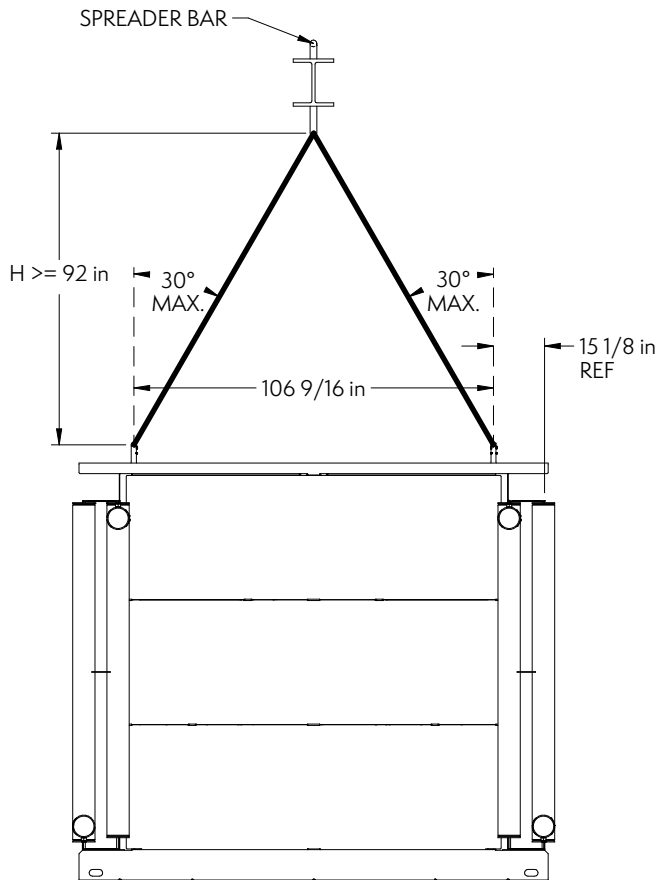
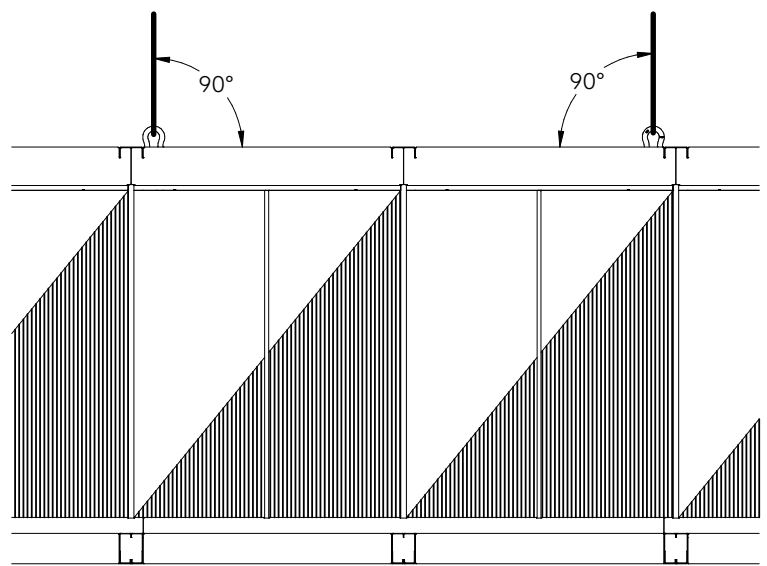

Figure 3.1 – Coil Section End Elevation View
Figure 3.2 – Coil Section Side Elevation View
3. Ensure that the 'H' dimension for the crane lift is greater than or equal to 92" (2.3 m) from the lifting ears as shown in Figure 3.1. When viewed from the side, the lifting angle must ALWAYS be 90 degrees (perpendicular) to the top of the unit, as shown in Figure 3.2. The centerline distance between the lower section lifting ears on the end elevation view is 8' 10-9/16" (2706 mm).